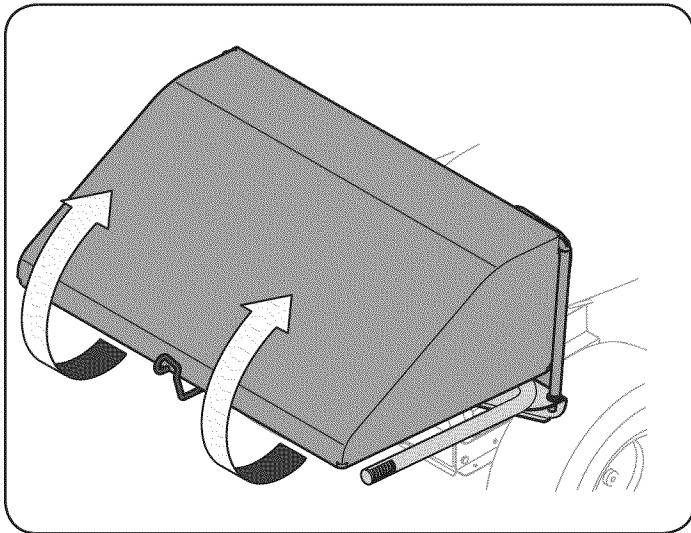

Figure 11
1. Open the grass bag cover by lifting the lower rear of the cover and pivoting it upwards. It is not necessary to remove the discharge chute in order to empty the grassbags. See Fig. 11.